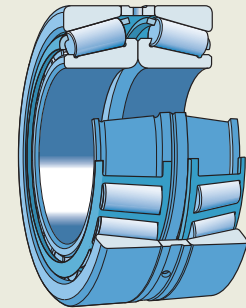

Fig. 10
- have load lines that converge toward the bearing axis (fig. 10)